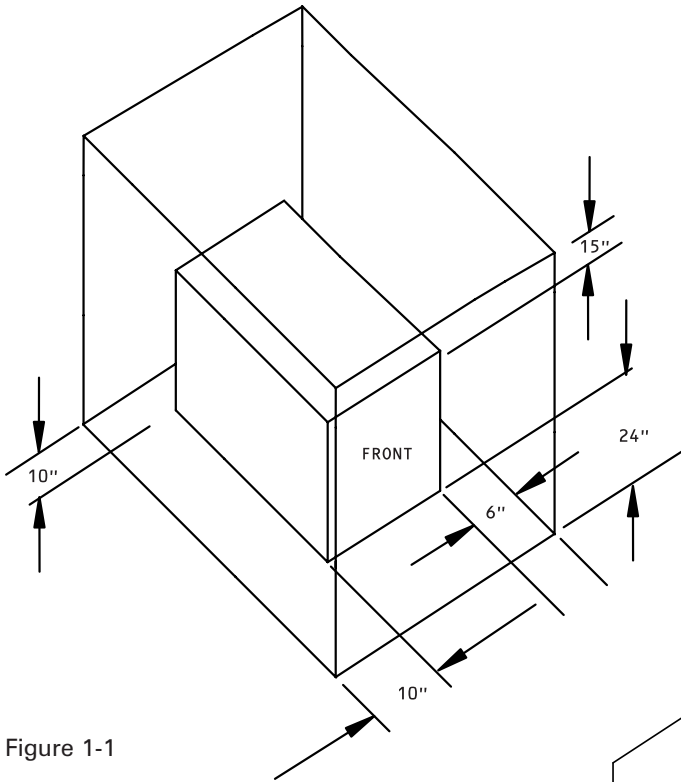
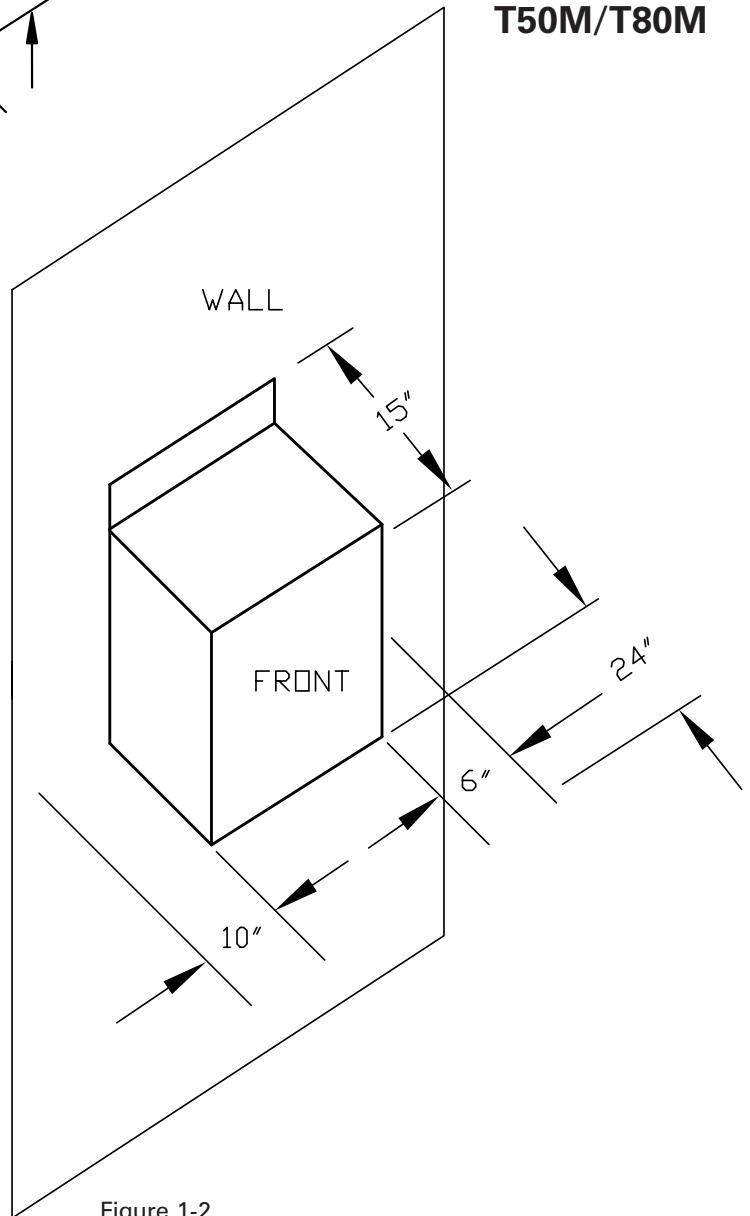

Figure 1-1
Figure 1-2
2. Refer to Figure 1.1 and Figure 1.2 for the recommended clearance to allow for reasonable access to the boiler. Local codes or special conditions may require greater clearances.
Note: Service clearance of the Munchkin: See Section 1, Figures 1-1 and 1-2.